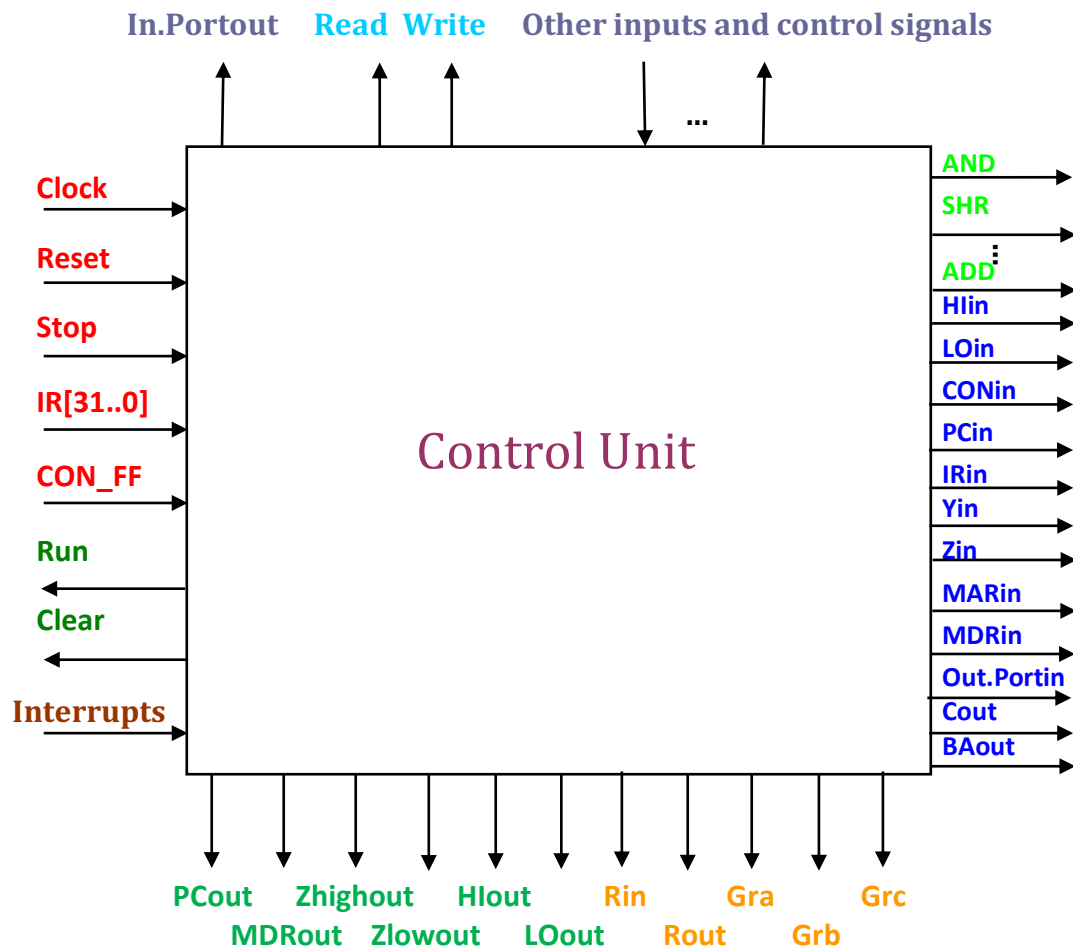

Figure 5: Block diagram of the Control Unit
The ALU has two inputs, A and B, and an output, C. Because the bus can support only one transaction at a time, one of the inputs (A input) to the ALU needs to be stored in the 32-bit temporary register, Y. As discussed in the CPU Specification document, the ALU supports the addition, subtraction, multiplication, division, shift right, shift right arithmetic, shift left, rotate right, rotate left, logical AND, Logical OR, negate, and NOT operations. The control signals to the ALU (generated by the Control Unit in Phase 3, as shown in Figure 5) will enforce the required operation. These control signals include *ADD*, *SUB*, *MUL*, *DIV*, *SHR*, *SHRA*, *SHL*, *ROR*, *ROL*, *AND*, *OR*, *NEG*, and *NOT* control signals, among others. Note that in Phase 1 and Phase 2, you simulate such control signals. The Z register holds the result of the operation in ALU and will be able to drive the Bus in the next clock cycle when the bus is free. The Z register is 64-bit long to hold the result of a
2.2 Control Unit: The Control unit is to be designed in Phase 3. However, a block diagram is provided in Figure 5 for a better understanding of the Datapath. The Control Unit is at the heart of the processor. It accepts as inputs those signals that are needed to operate the processor and provides as outputs all the control signals necessary to execute the instructions. The outputs from the Control Unit are the control signals that we use to generate **Control Sequences** for the instructions of the Mini SRC.